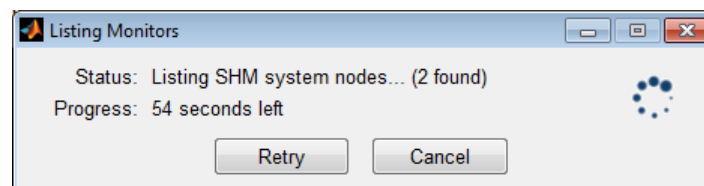

Figure 4.6: 'List Monitors' dialog box.
- ✓ **Step 4.11** Click Commands > List Monitors... from the main menubar. This can also be achieved by clicking the keyboard combination **Ctrl** + **L** . A 'List Monitors' dialog box will appear, as shown in Figure 4.6, displaying the status of the number of SHM system nodes found and the amount of time remaining to receive responses.